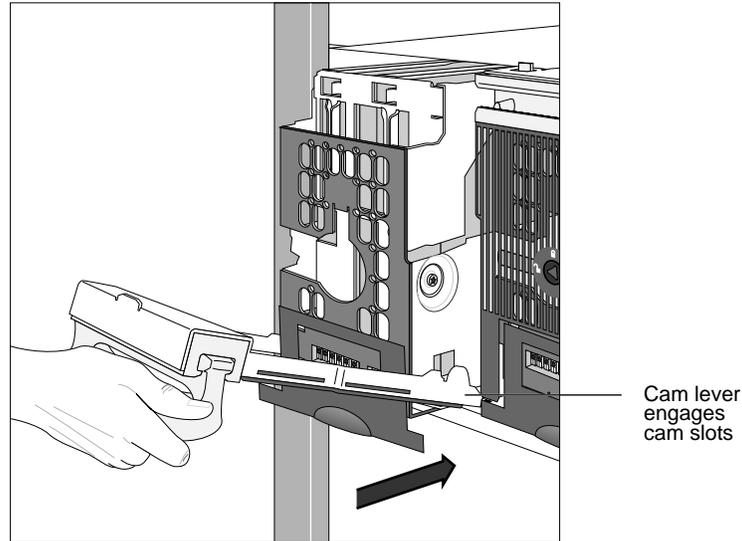

Figure 16. Installing a drive drawer
5. While holding the handle down, slide the drawer the rest of the way into the slot until it is about 3/4-inch from the HDDA chassis (Figure 16).